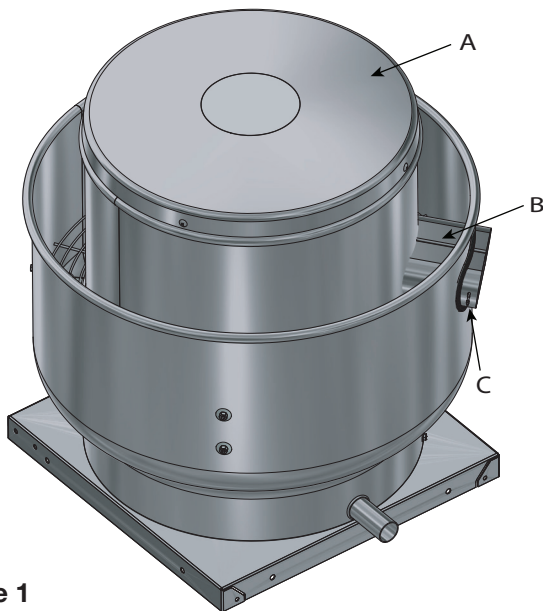

Figure 1
1. Disconnect wiring conduit from any existing externally mounted switches connected to the motor if directed through the fan's breather tube (See Figure 1, Component B). **NOTE:** Ensure power is disconnected from unit before this step is completed. If conduit through the fan's breather tube is non-existent this step is not required.
2. Remove motor hood cover (See Figure 1, Component A).
3. Remove interior birdscreen retaining clip from the breather tube by expanding the clip at open end (See Figure 1, Component C).